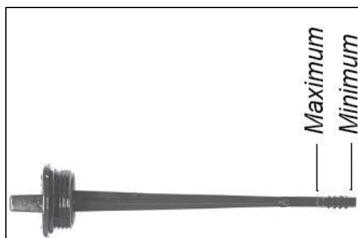

Fig.9
- ☒ Check the oil level. The oil level must between the **min** and **max** marks on the dipstick. (see fig.9) If near the lower level, fill to upper level.